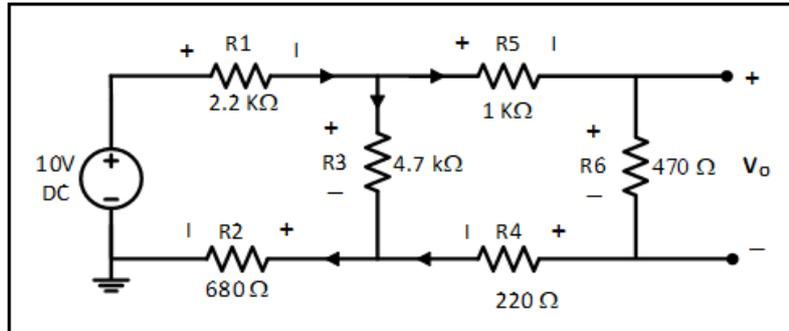

Figure 4.1
1. For the circuit of Figure 4.1, use PSPICE to generate a plot of (V_o) (use differential voltage marker), for a V_{in} sweep from 0 to 15 V in a 1.5V step, use cursors to mark data point at $V_{in} = 5$ and 10 V.
1. Connect the circuit of Figure 4.1.